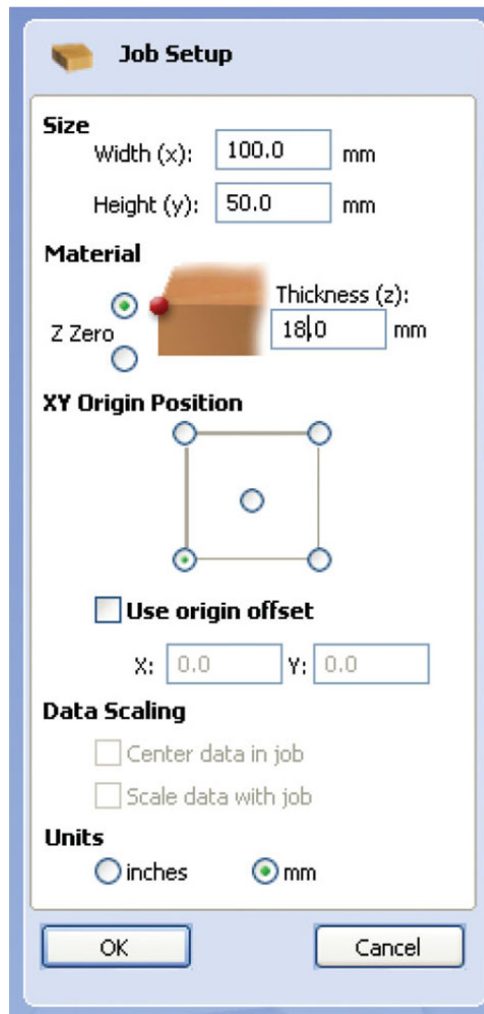

Fig. 5-8 The Job Setup panel.
- Towards the bottom left of the Job Setup panel on the screen (Fig. 5-8), choose your preferred units.